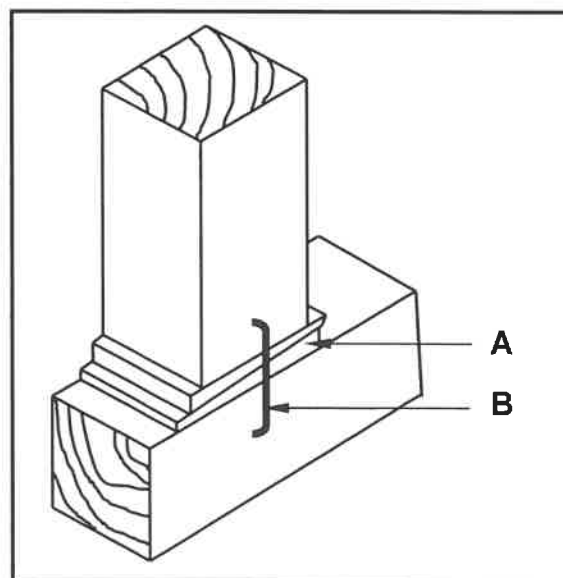

FIGURE 5.3
- 5.3 FIGURE 5.3 below shows part of the detail of a dead shore. Study the drawing and answer the questions that follow.